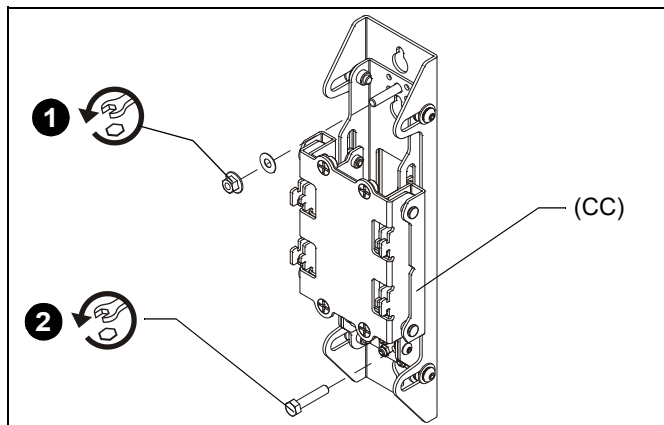

Figure 2
1. Remove flanged nut and washer from top of wall upright. (CC) (See Figure 2)